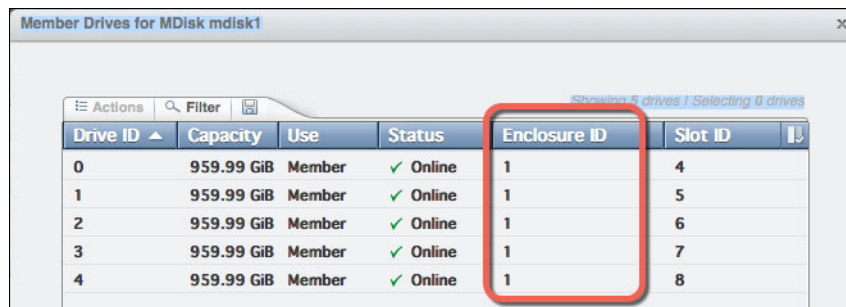

Figure 7-28 Identify the enclosure
3. In the Member Drives panel, note that the Enclosure ID to be erased is enclosure 1 (Figure 7-28).